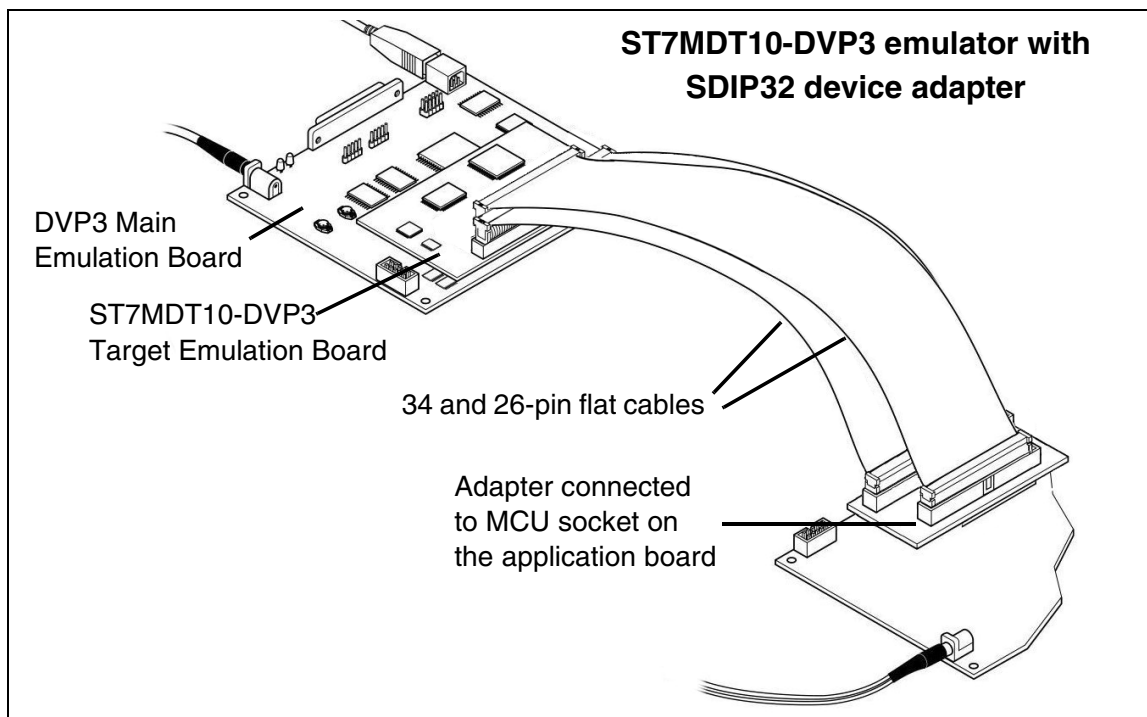

Figure 3: DVP3 to application board connection
- 5 Insert the pins of the SDIP32 adapter into the socket soldered on your application board, as shown in Figure 3. Use the orientation indicators on the SDIP32 adapter and on your application board to ensure that its pin number 1 is aligned with pin 1 on your application board.